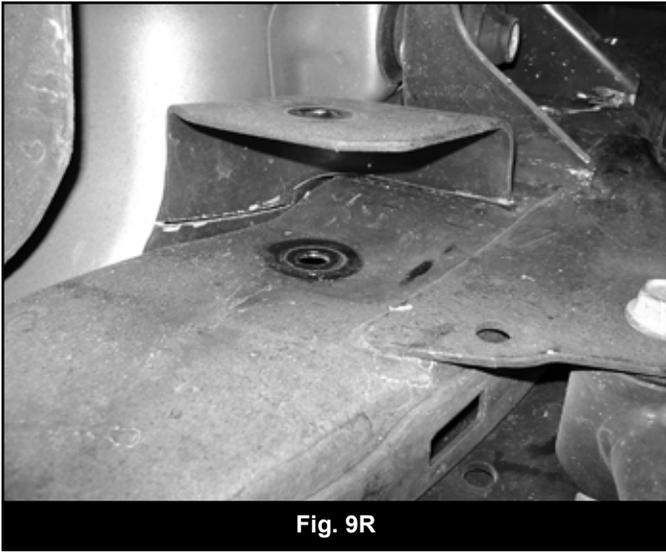

Fig. 9R
20. Remove the upper control arm pocket from the frame with a sawzall. Trim 1/4"-1/2" away from the frame all of the way up. (Figure 9R, 10R)